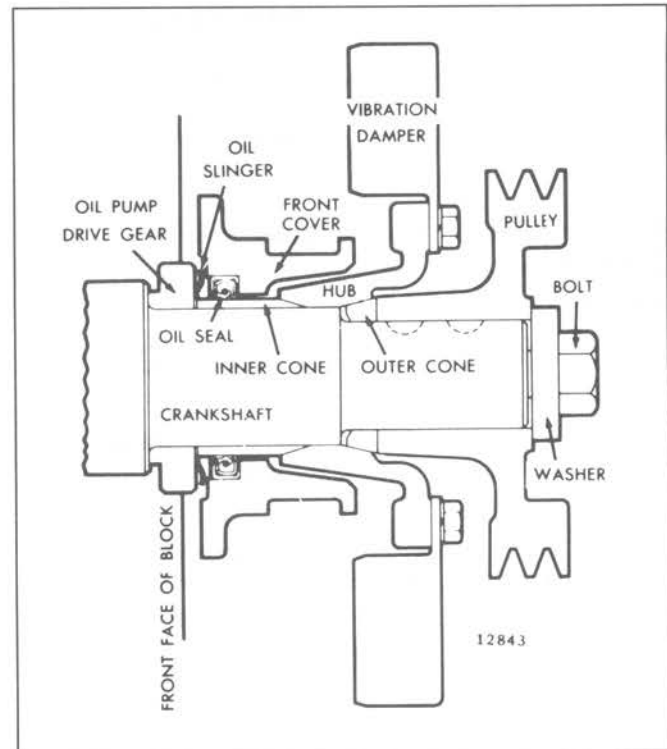

Fig. 6 - Vibration Damper and Crankshaft Pulley Assembly Mounting
3. Assemble the current vibration damper and hub as follows (Fig. 6):